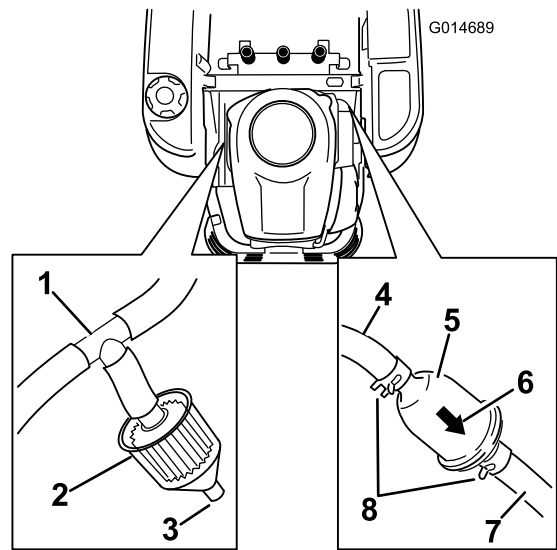

Figure 36
3. Raise the seat and locate the fuel filters as shown in Figure 36.
4. Squeeze the ends of the hose clamps together and slide them away from the filter (Figure 36).
6. Install a new filter with the flow direction arrow coming from the fuel tank and pointing to the engine. Move the hose clamps close to the filter (Figure 36) to secure it in place.
Some machines are equipped with a emissions filter (Figure 36) connected to a tee fitting on the vent line coming from the gas tank. The filter has an open port by design. The filter should be inspected regularly. Replace the filter if the filter is dirty or clogged.